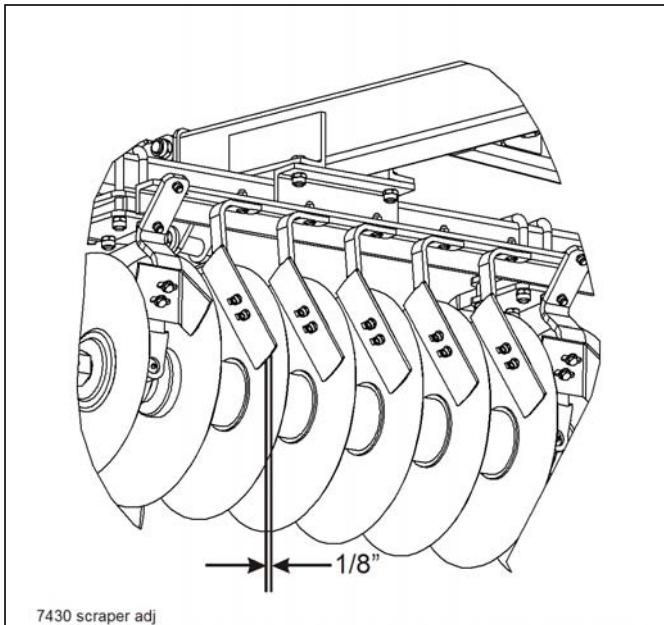

Figure 4-16: Scraper Adjustment
1. Rigid scrapers should be set initially as close to the disc blade as possible without rubbing (approximately 1/8") (See Figure 4-16.) A slotted hole at the top of each scraper is provided for individual adjustment. Adjustments may be made for entire gangs, by loosening the u-bolts around the angle-iron scraper bars and sliding the whole bar. Scraper arms are made of spring steel. In wet conditions, the scraper may be set against the disc blade and will function as a spring-loaded scraper.